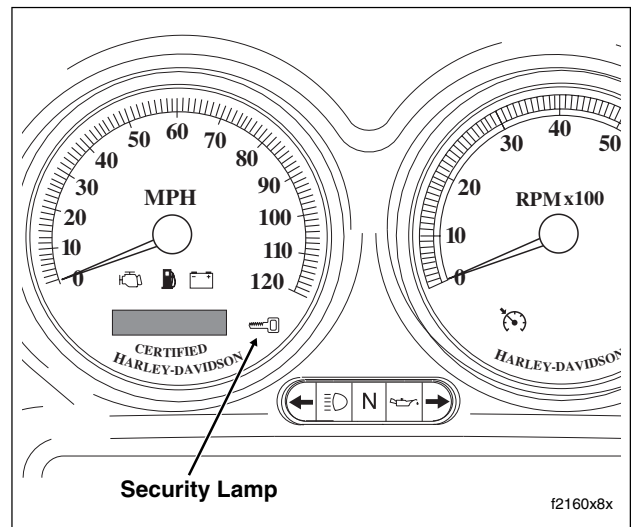

Figure 3-8. Speedometer (FLHT/C/U)
1. See Figure 3-8. When the ignition key is turned ON, the security lamp will illuminate for approximately four seconds and then turn off.